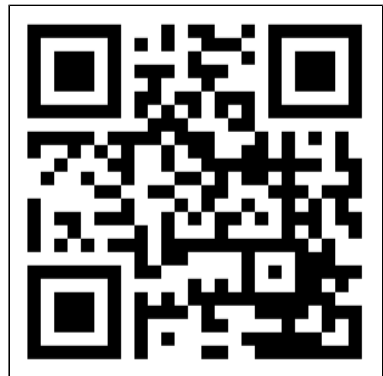

Figure 40.
1. Open the Eurom Smart App manual with the QR code (Figure 40) or go to www.eurom.nl/nl/manuals.